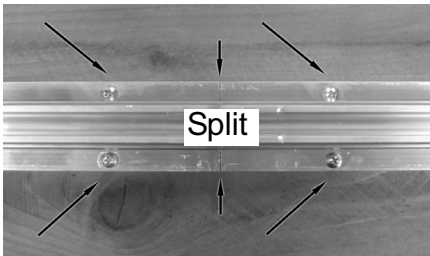

Fig 4
**Step 4:** Mount Rail to board. All Rail-mounting points need to be used to secure Rail to mounting board (Fig 4 and 5).